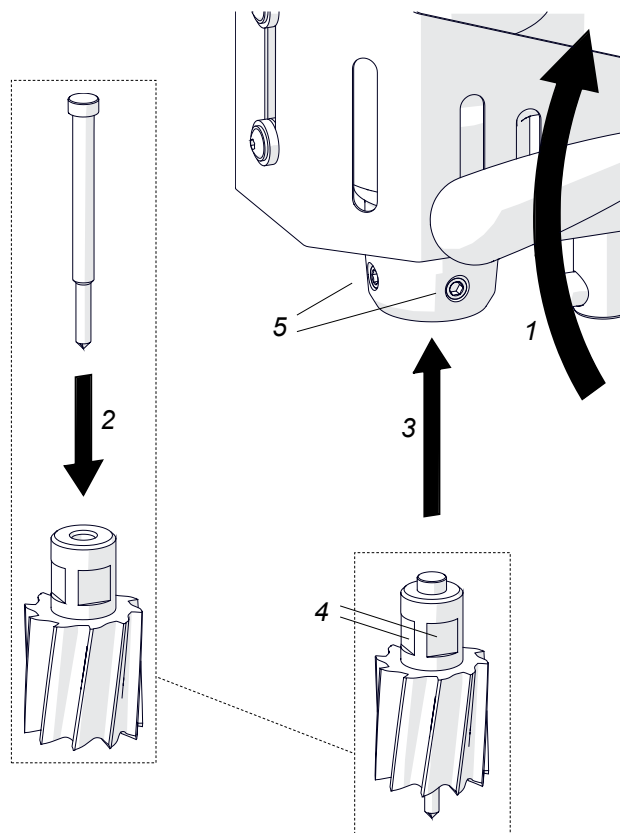

Fig. 1. Installing the annular cutter
Unplug the machine from the power source, and then rotate the handles to the right (1, Fig. 1) to raise the motor. Wear protective gloves and insert the proper pilot pin into the annular cutter (2). Then, use a clean and dry cloth to wipe the arbor and cutter. Next, insert the cutter into the arbor (3) so that the flats (4) are aligned with the set screws (5). Then, use the 4 mm hex wrench to tighten both set screws.